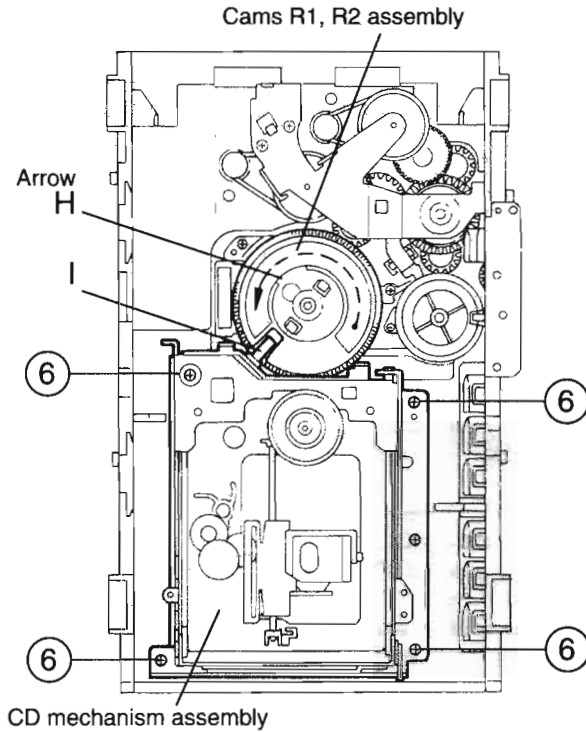

Fig.10
Removing the CD mechanism assembly(See Fig.10)
1. While turning the cams R1 and R2 assembly in the arrow direction "H", align the shaft "I" of the CD mechanism assembly to the position shown in Fig.10.